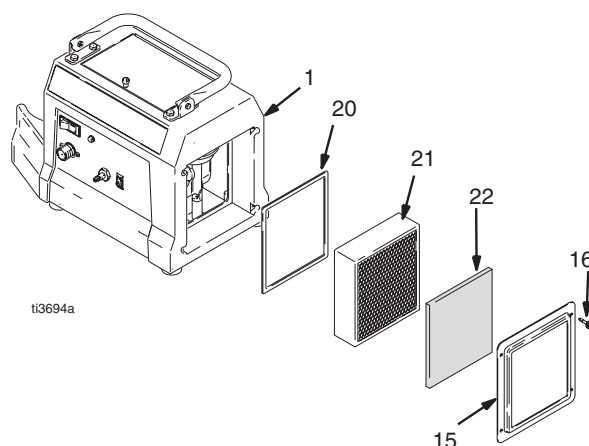

FIG. 6
- 2 Loosen four thumbscrews (16), remove filter retainer (15) and pre-filter (22). Fig. 6.
- 3 Remove main filter (21) and clean using one of the following methods: